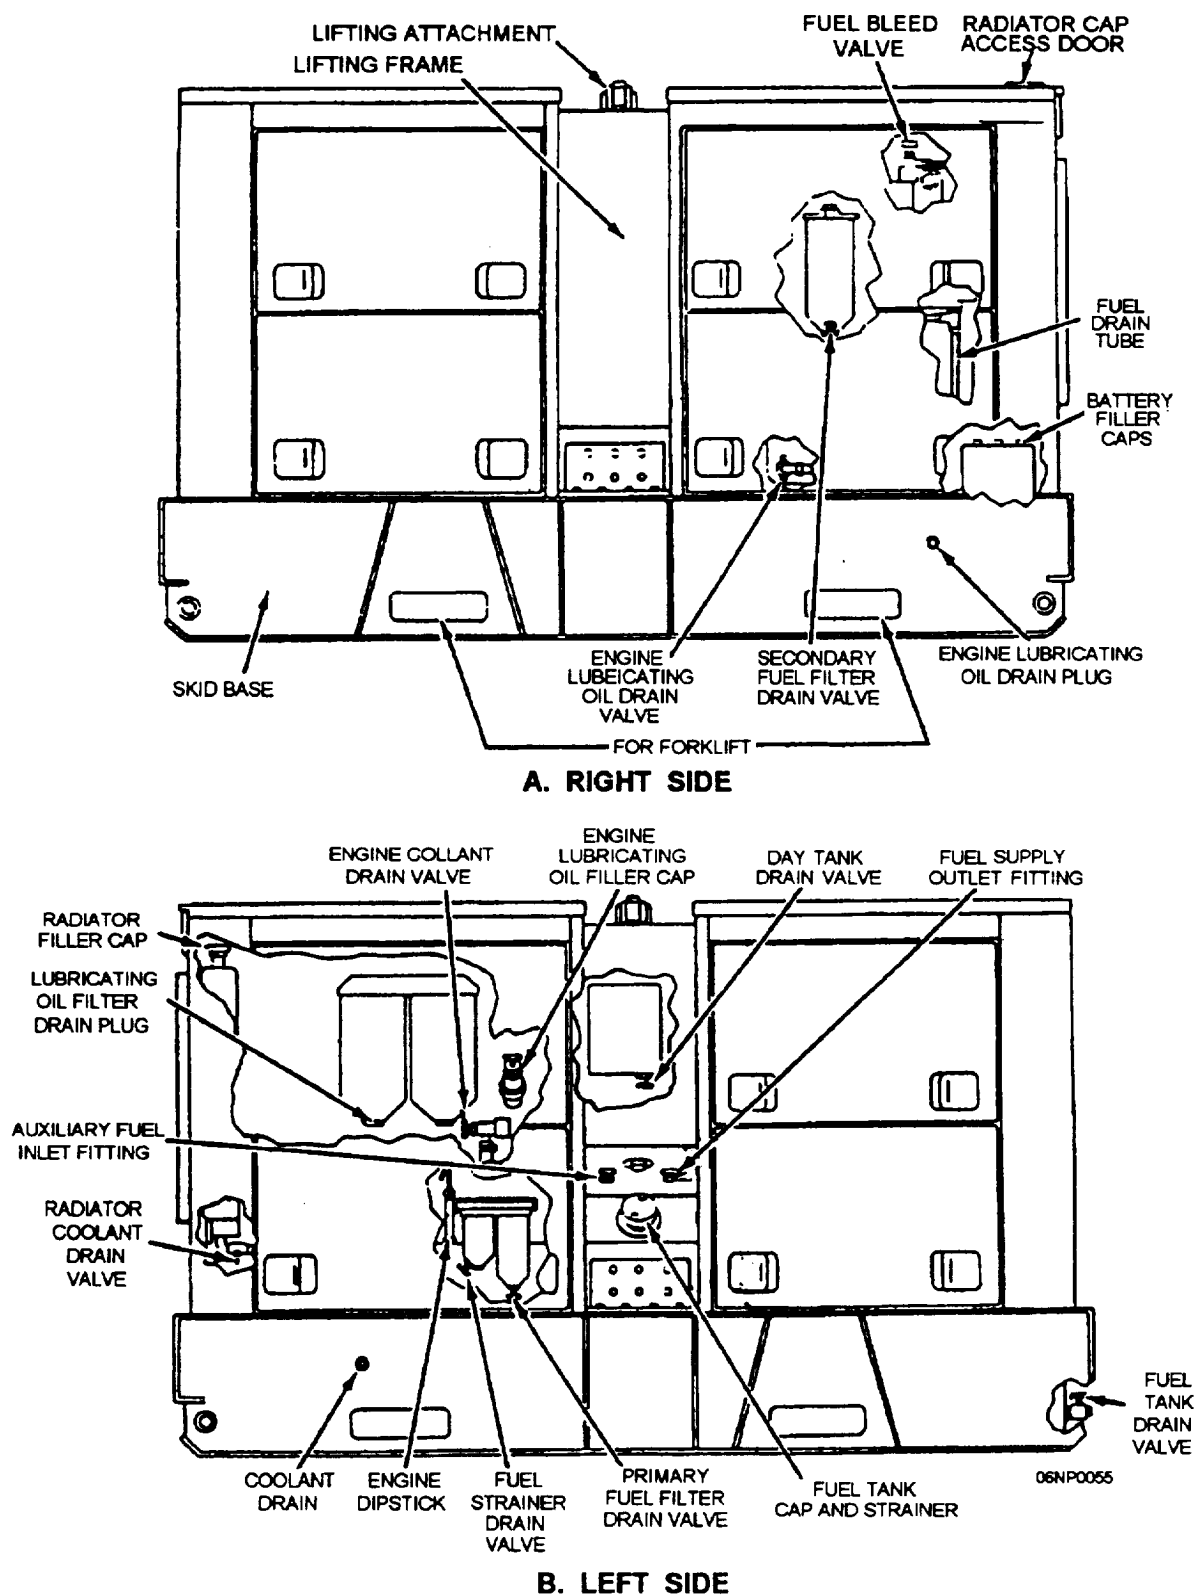
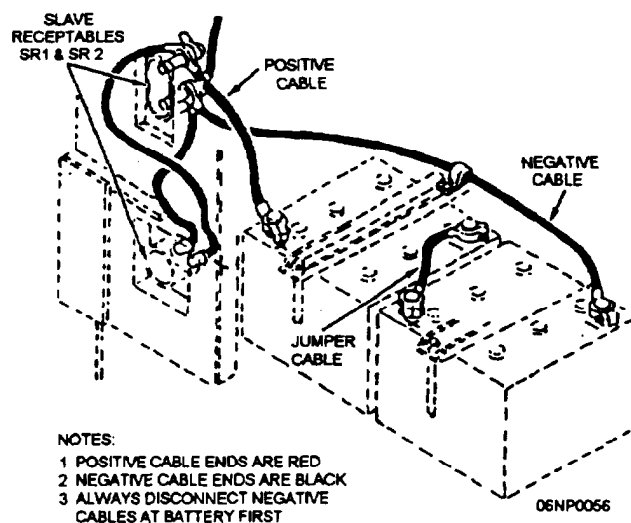
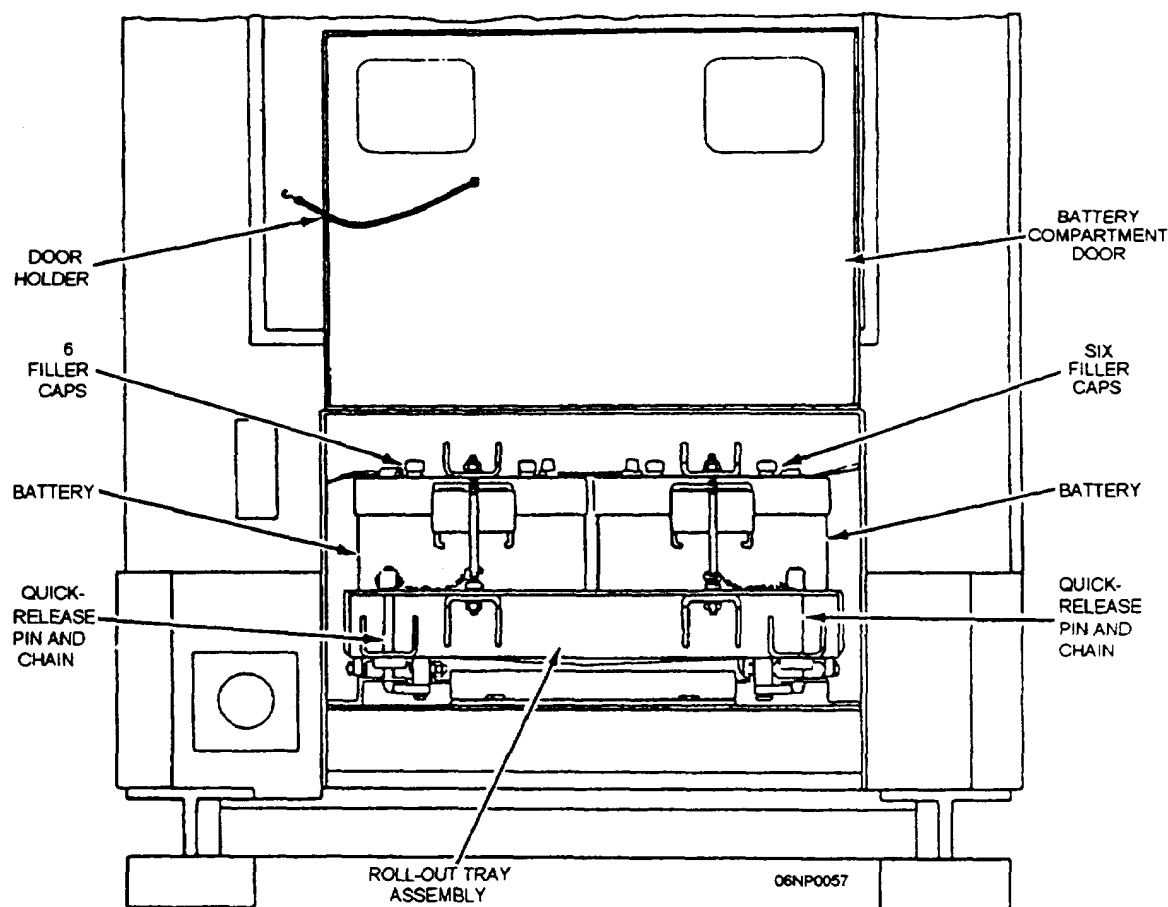

Figure 3-1.—Typical 60-kW generator set.
Figure 3-2.—Battery cable connections and slave receptacles.
Figure 3-3.—Battery compartment.
Before the set is operated, it must be serviced. We will use the 60-kW generator set as an example for discussing the servicing of the set after you receive it. As you read this discussion, refer to figure 3-1 for locating fill and drain points and drain valves.
Do not smoke or use an open flame in the vicinity of batteries when servicing them. Batteries generate hydrogen a highly explosive gas. When removing batteries, always remove both negative cables before removing the positive cables (fig. 3-2).
The 60-kW generator set is equipped with two 12-volt, 100-ampere-hour batteries. The batteries are located under the radiator (fig. 3-1, view A) on a roll-out tray (fig. 3-3). They are connected in series to supply 24 volts dc for starting the generator set and operating direct current components. Two slave receptacles (fig. 3-2), connected in parallel, permit easy connection to the batteries to supply or obtain battery power. As we
discuss activating the batteries, refer to steps 1 through 3 (following) and figure 3-3.
After the battery has been charged, connect the battery into the starting system of the prime mover, as shown in figure 3-2. Always connect the negative cable last.
4. Push in the roll-out tray assembly and install the quick-release pins (fig. 3-3).
You must check the engine crankcase oil level before operating the generator set. The engine dipstick (fig. 3-1, view B) is the crankcase oil level gauge. The dipstick in the generator engine is the shielded type, which allows checking the oil level while the engine is either stopped or running. The dipstick is stamped on both sides to indicate the two different oil levels. The engine running side is stamped as follows: "ADD," "FULL," and "RUNNING." The engine stopped side is stamped as follows: "ADD," "FULL," and "STOPPED." Be sure to use the appropriate add and full marks, depending on whether the engine is stopped or running. Also, ensure that the appropriate side of the dipstick is up when inserting it since the underside will be wiped in the gauge tube when the dipstick is removed, therefore, indicating a false oil level reading.
To check the oil level, first remove and wipe the oil from the dipstick. Loosen and remove the oil filler cap (fig. 3-1) to allow the pressure to escape. Reinsert the dipstick (with the appropriate side up) and remove it to observe the oil level. Add oil through the fill tube, as required, to obtain the "full" level on the dipstick. Be sure to use the proper grade of oil. A lubricant chart in the instruction manual furnished with each generator will show the proper grade of oil to use at the operating temperature.
Remove the fuel tank filler cap (fig. 3-1, view B), and fill the fuel tank with the proper fuel. (Refer to the instruction manual.) Replace the filler cap and wipe up any spilled fuel.
You must drain sediment and water from the day tank as you did from the fuel tank. Remove the cap from the day tank drain valve and open the valve. (Refer to fig. 3-1, view B, for the location of the tank and its drain valve.) Drain water and sediment into a container. Close the valve when clean fuel runs out of the tank, and install the cap back on the valve.